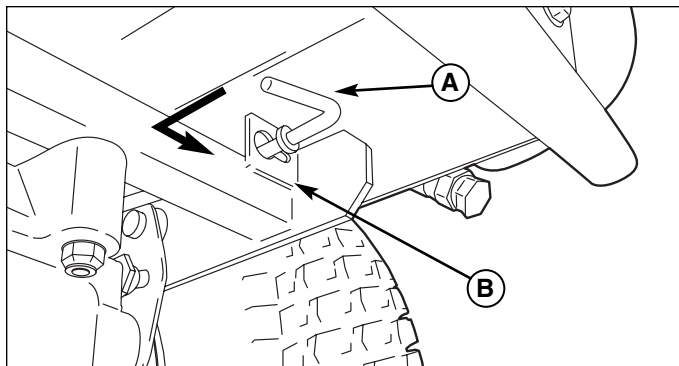

Figure 2. Roll Release Components (On Each Side)
2. To disengage the transmissions (free-wheel position), push the roll release rods (A, Figure 2), located under the rear of the unit behind each transmission, in toward the transmission until the collar on the neck of each rod passes through the keyhole in the roll release plate, then lock the rod in the roll release position by sliding the rod sideways into the keyhole slot .